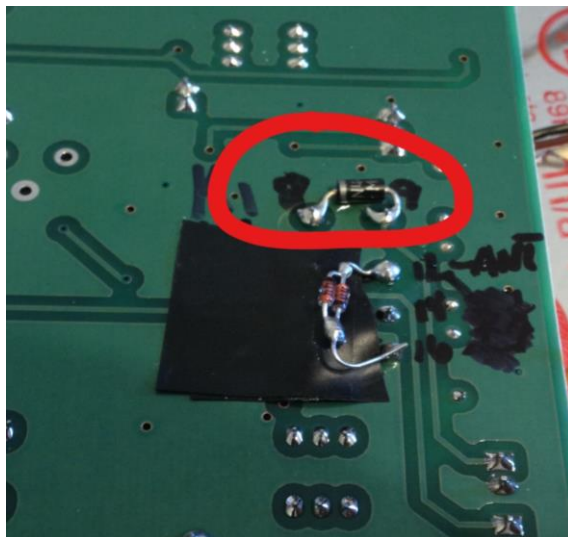

Figure 2: Reverse diode across relay K1. Use any silicon power diode, such as 1N4002 or 1N4007.
2. **Relay Back-EMF protection.** Diode D7 in the production run was misplaced and doesn't protect the relay switching device (be it a transistor, switch, opto-isolator) from the inductive back-emf of relay K1. Add a proper reverse diode across the coil of relay K1, pin 8 (cathode) to pin 9 (anode), as shown in Figure 2.